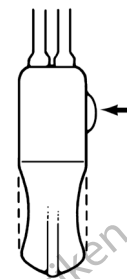

Figure 4-39. Press Deactivation Button When Slight Indentation Felt
3. When slight indentation in pump bulb is felt, press the deactivation button (**Figure 4-39**).